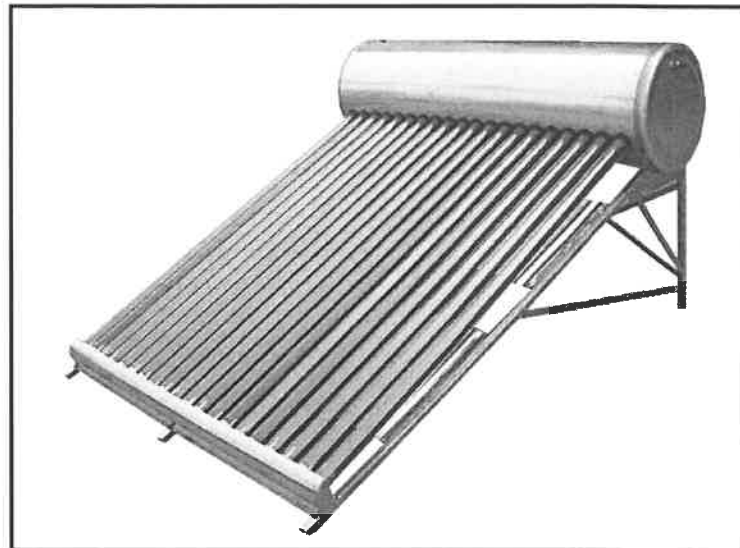

FIGURE 4.1
4.1 FIGURE 4.1 below shows a water-heating system.